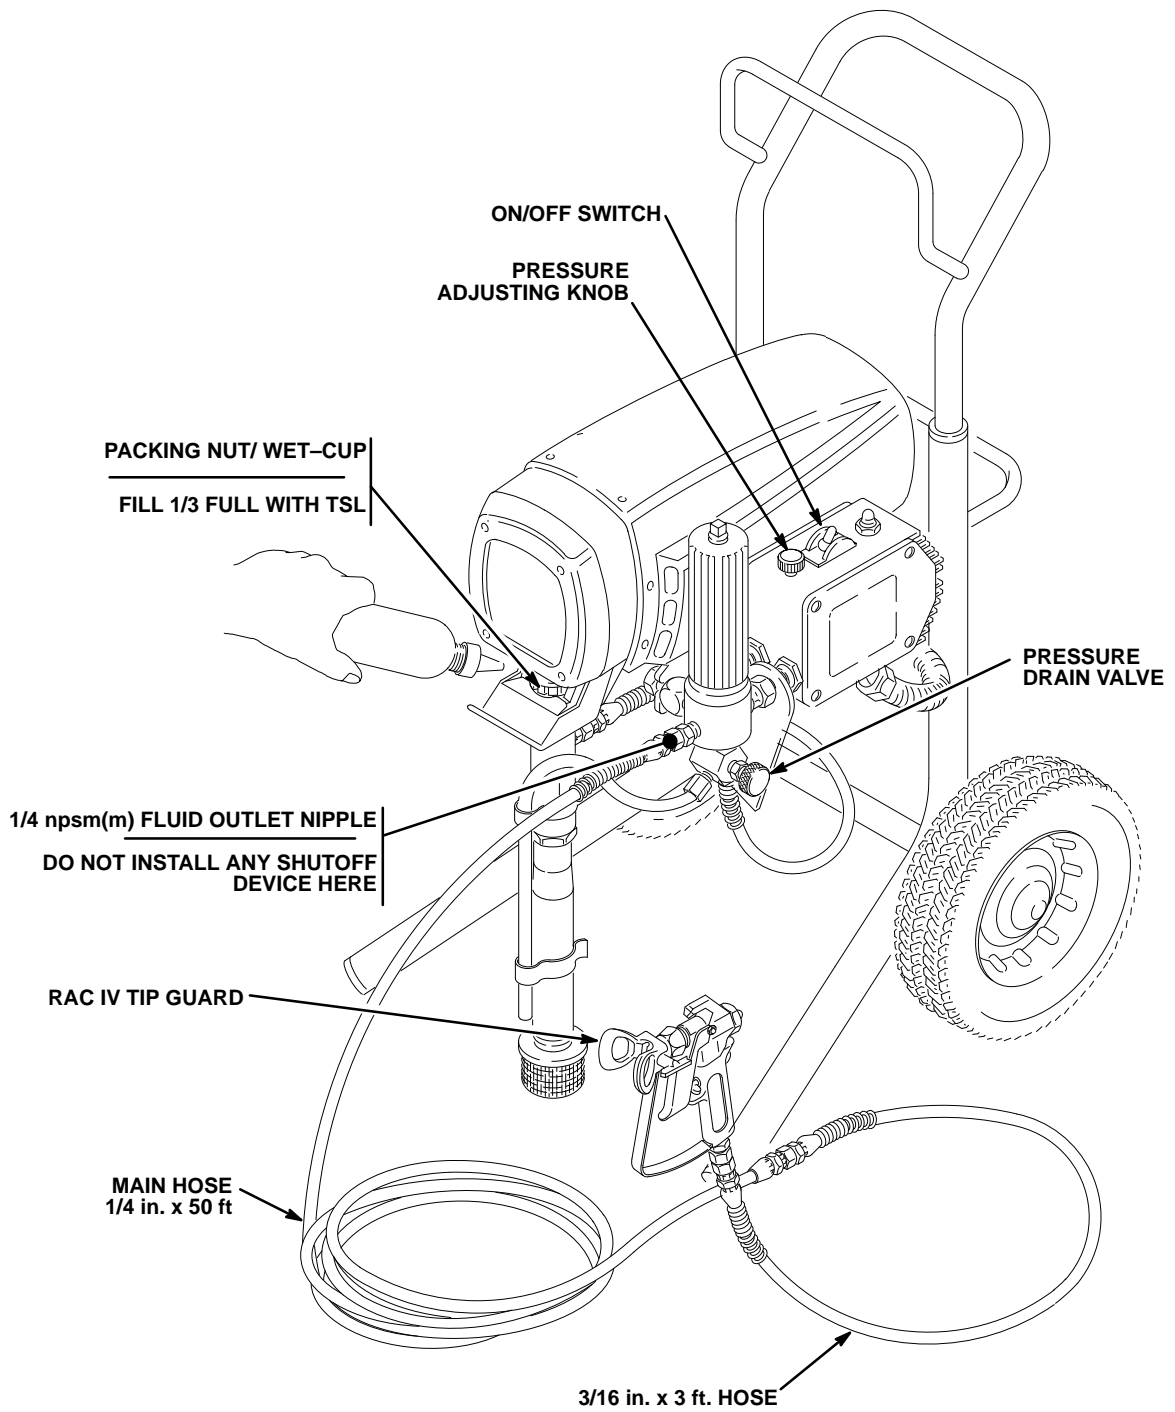

Fig 11-1
3. Never install any shutoff device between the filter and the main hose. See Fig 11-1.
NOTE: See Fig 11-1 while doing the setup.